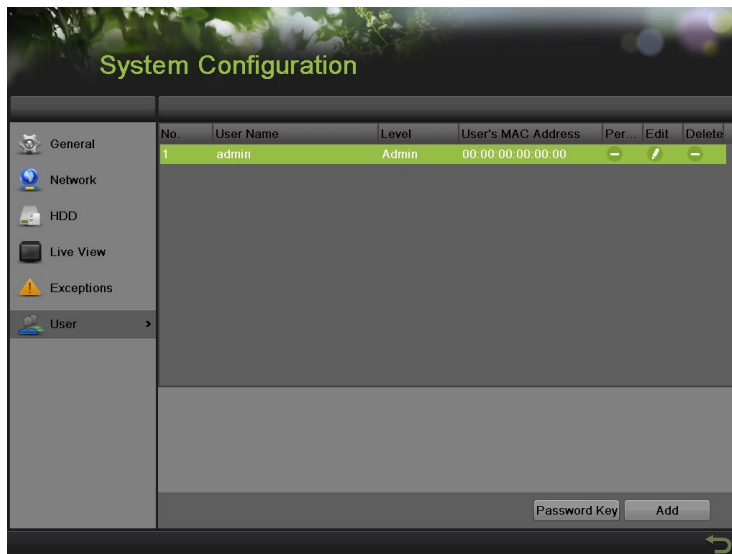

Figure 90 User Settings Menu
You can change the default password by going to Menu > System Configuration > User, as shown in Figure 90.
1. Enter the User menu, shown in Figure 90 by going to Menu > System Configuration > User.